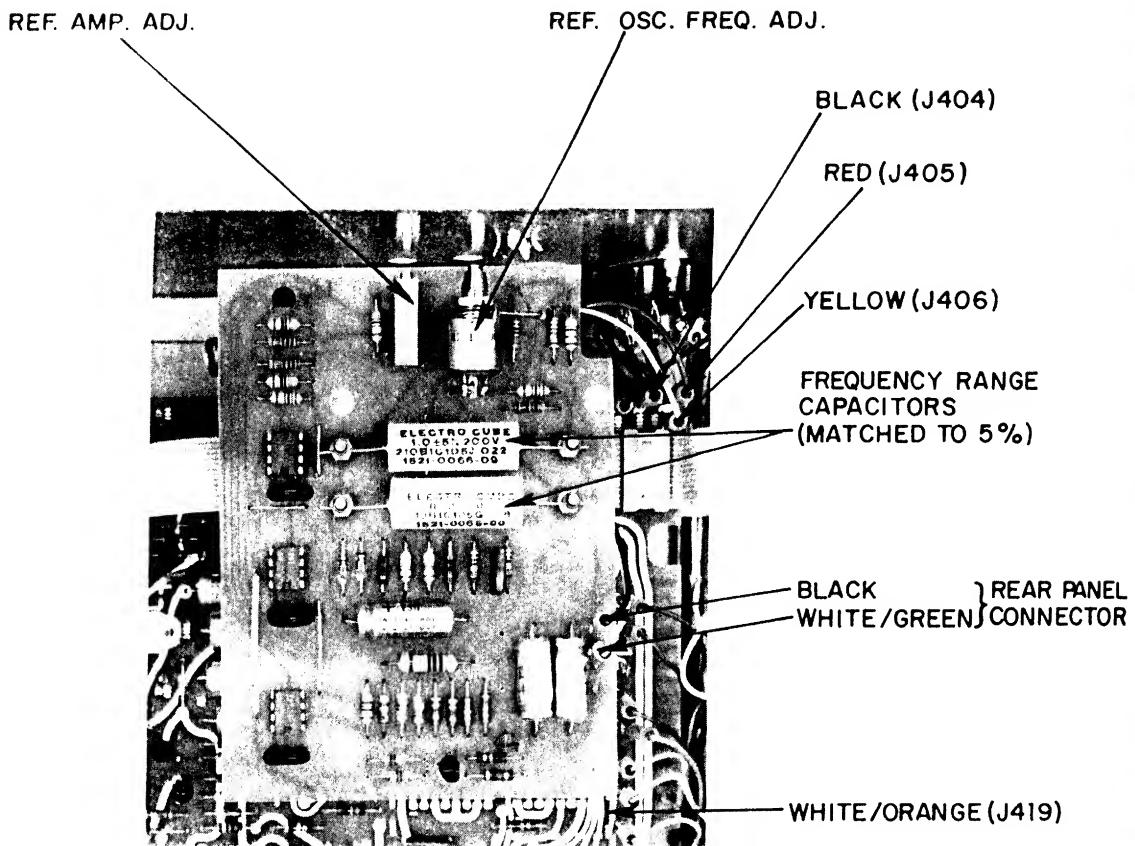

Figure IV-13. INTERNAL OSCILLATOR BOARD INSTALLED
If the Internal Oscillator is ordered separately, the installation is generally made by the customer. Three items are supplied, the oscillator board itself, a BNC connector with two wires attached, and a metal "tag" bearing the word "MONITOR". The oscillator circuit board is secured to the Model 128A by standoffs which plug into openings in the Model 128A Reference board as shown in Figure IV-13. This figure also shows the location of the various interconnecting wires, all of which are terminated in quick-disconnect contacts so that the installation can be completed in a matter of minutes with no special tools or soldering required.* The oscillator adjustments are ordinarily preset at the factory for 100 mV rms out at the frequency specified by the customer. The appropriate frequency range capacitors are factory inserted. The following procedure can be used to make the installation.
- (4) Remove the Reference INPUT connector from the front panel. Then locate the "Monitor" tag over the panel opening and remount the connector so that the tag is secured in place by the connector mounting flange.
- (5) Position the oscillator board as shown in Figure IV-13 but do not snap it into place yet. Dress the red, yellow, and black wires out to the right, and the longer white/orange wire towards the front of the instrument.
- (6) Connect the red, yellow, and black wires as follows.
- (7) Connect the pink wire from the Ref. In connector to J418.
- (8) Locate the white/orange wire from the oscillator and connect it to J419. Dress this wire along the Ref. Bd.
- (9) Press the Oscillator board down until it snaps into place.
- (10) Connect the black and white/green twisted leads (from the rear-panel connector) to the Oscillator board quick-disconnect contacts as shown in Figure IV-13.